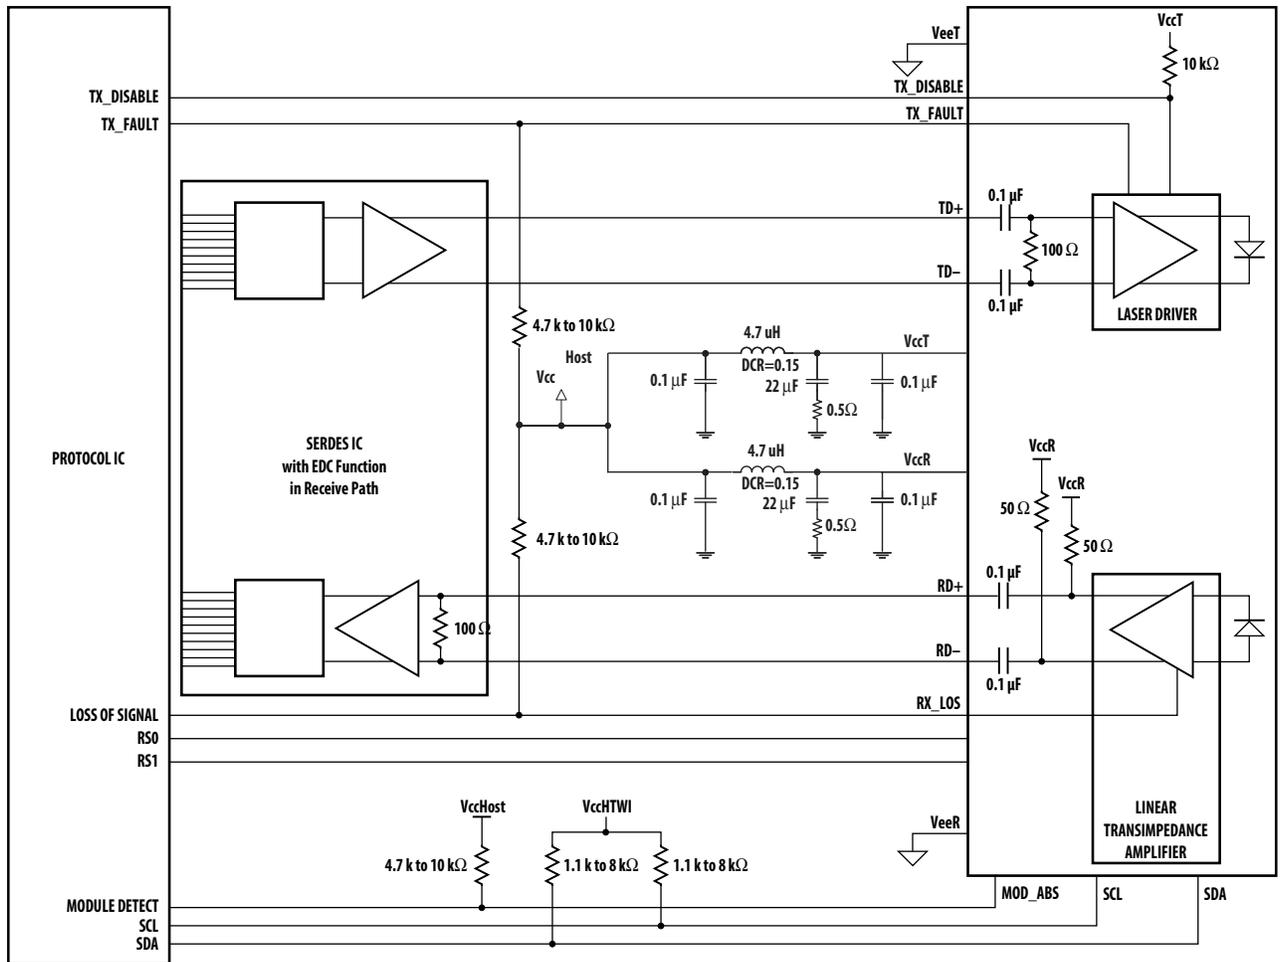

Figure 2. Typical application configuration
Figure 2 depicts the recommended interface circuit to link the AFBR-707SDZ to supporting physical layer ICs. Timing for the dedicated SFP+ control signals implemented in the transceiver are listed in Figure 6.
2. This is an open collector/drain output that on the host board requires a 4.7 kΩ to 10 kΩ pullup resistor to VccHost. See Figure 2.